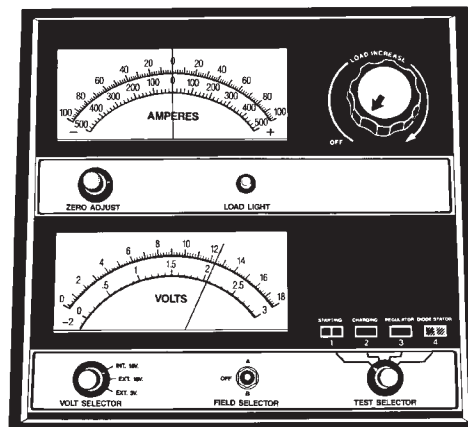

Fig. 5 Testing Open-Circuit Voltage - Typical
(2) Disconnect and isolate both battery cables, negative cable first.
(3) Using a voltmeter connected to the battery posts (refer to the instructions provided with the voltmeter), measure the open-circuit voltage (Fig. 5).